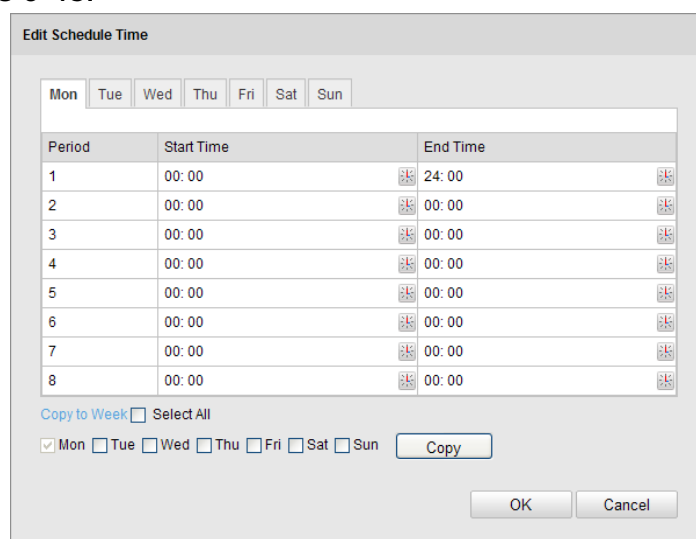

Figure 6-48 Arming Time Schedule
- (2) Choose the day you want to set the arming schedule as shown in Figure 6-48.